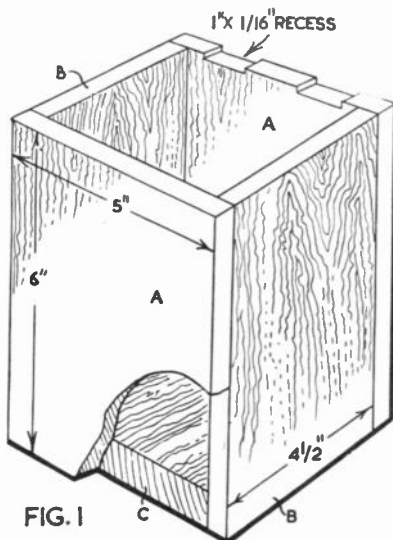

FIG. 1
THE diagram in Fig. 1 shows the general construction and the overall dimensions of the biscuit barrel. Note that recesses are cut in piece (A) to take the 1in. light brass hinges.
Assemble the box as shown in Fig. 1, using glue only. Wipe off the excess before the glue has time to dry.